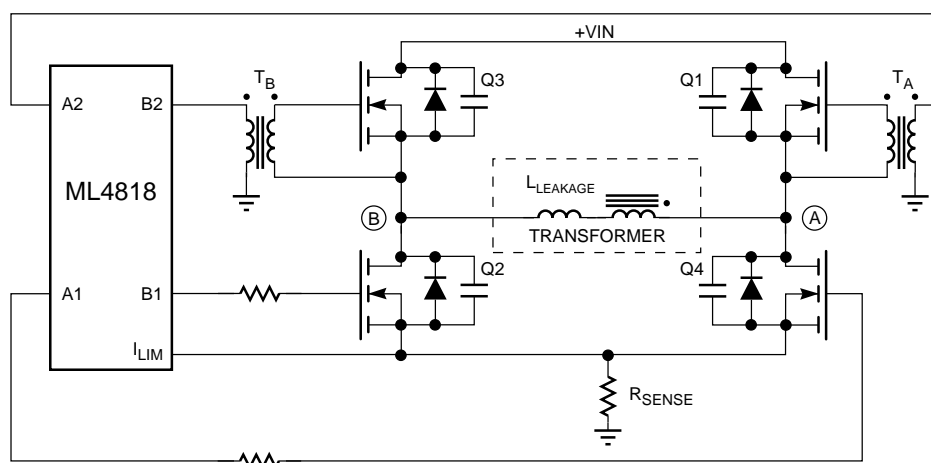
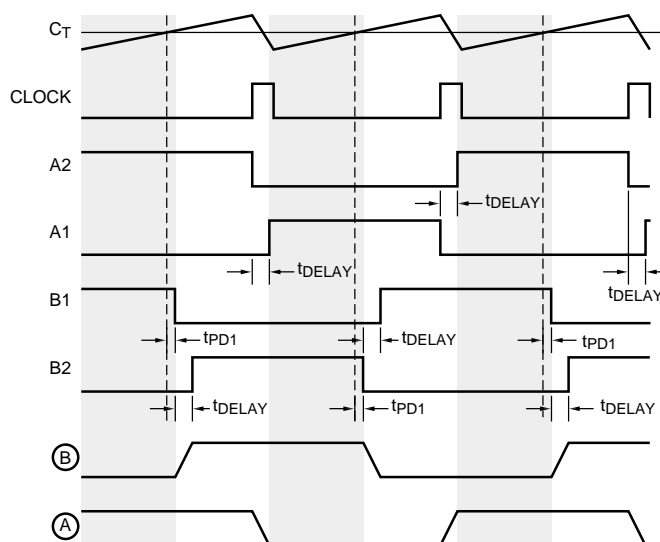

Figure 1. Simplified diagram of Phase Modulated power Outputs
Figure 2. Phase Modulation control waveforms (Shaded areas indicate a power cycle)
Power is controlled by modulating the switching phase on sides A and B of the full H-bridge converter (Figure 1). Power is delivered to the output through the transformer secondary. The power conversion process is described by the following sequence and illustrated by the timing diagram of Figure 2:
6. The previous sequence is now repeated with the opposite polarity on all outputs (see Figure 2).